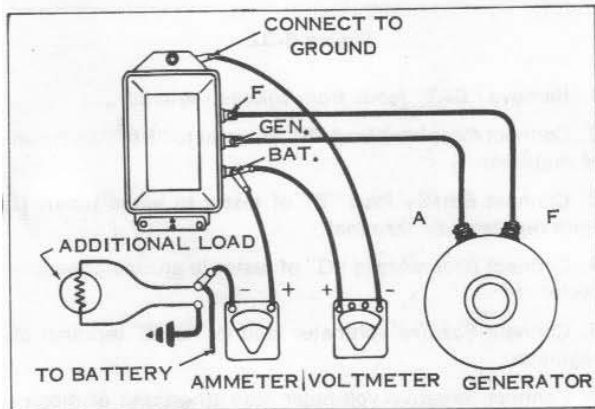

Figure 5-29.
D. TESTING CURRENT CONTROL UNIT SETTING (Figure 5-29)